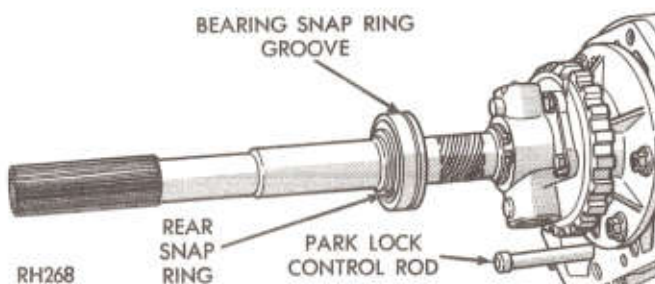

Fig. 8—Output Shaft Bearing
(1) Using heavy-duty snap ring pliers, remove the output shaft bearing rear snap ring and remove bearing from the shaft (Fig. 8).
(2) Install a new bearing on shaft with outer race ring groove toward front, then install rear snap ring. A-727 has a snap ring in front of bearing; A-904T and A-999 do not.